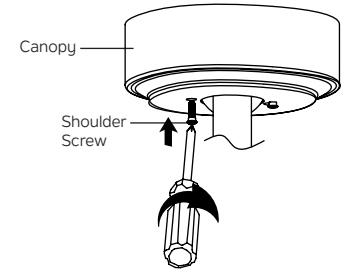

Fig. 16
Step 2. Assemble canopy by rotating key slot in canopy over shoulder screw in mounting bracket. Reinstall the shoulder screw that was previously removed, then retighten two shoulder screws securely. (Fig. 16)